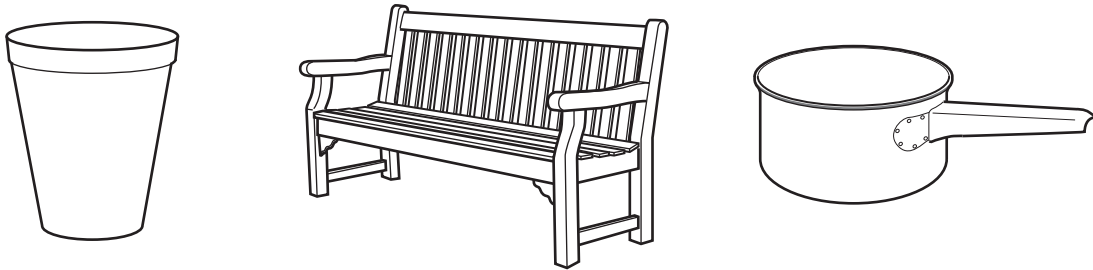

Fig. 6
- 8 Fig. 6 shows a plastic cup, a garden bench and a saucepan.